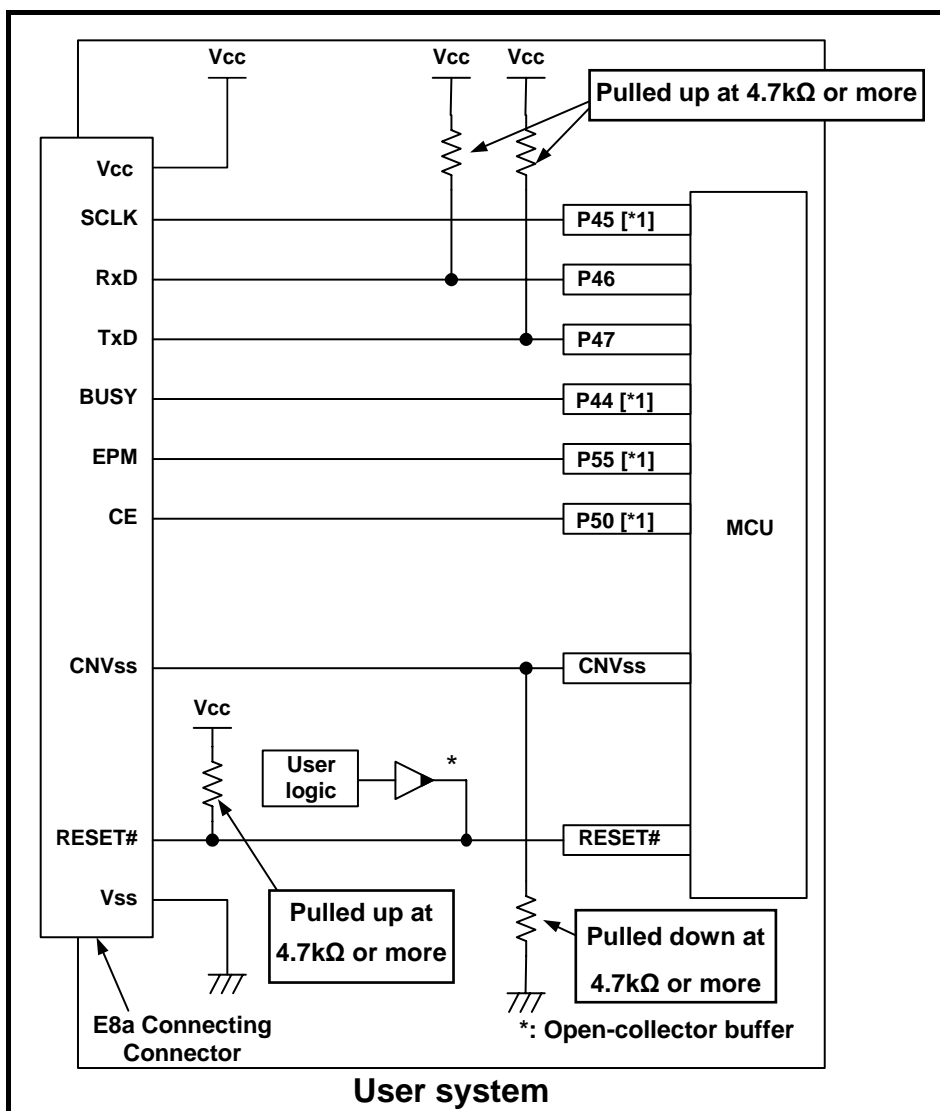

Figure 4.17 Example of an E8a Connection
- Single-chip mode: See Figure 4.17.